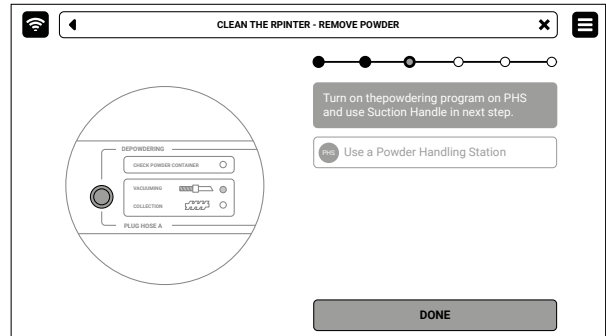

Fig. 9.3 Turn on the depowdering program on the PHS.
- 4. If you have the PHS connected to the printer, a corresponding message will appear on the screen. Turn on depowdering program and press **DONE** on the screen (fig. 9.3)